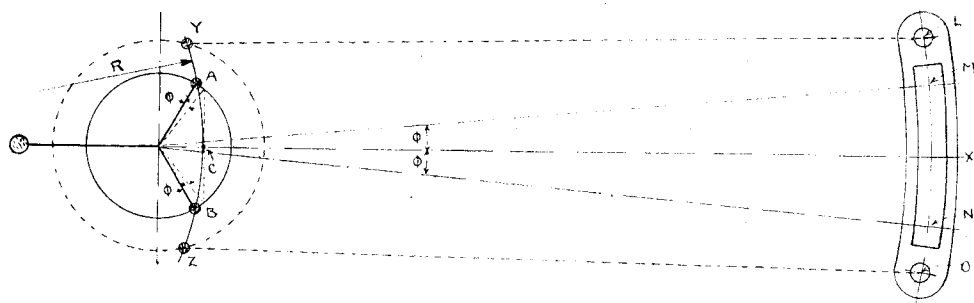

Fig 7.
WE will now again revert to the position of the eccentric when the stroke of same has to be made more than the travel of the valve, as when locomotive-type links are employed, as in Fig. 1 and 3. This increased throw is due, of course, to the eccentric-rod drive being out of line with the centre line of the valve spindle when in full gear. In Fig. 7 this arrangement is shown, and requires to be set out to scale to suit the requirements to a fairly large size. Suppose we have obtained our required valve events, as in the example Zeuner diagram, Fig. 4, and we have designed the links so as to make the angle ϕ , $7\frac{1}{2}^\circ$, which subtends from the axis to the two points M, and N, where the centre of the die-block is located, as in Fig. 7. We then have to fix the minimum distance LM and NO for the centre of the eccentric-rod pins, so as to bring the die-block as near to them as possible. Having done this, we can arrive
- (4) For launch-links, the stroke of the eccentric will be the same as the valve circle and the advance as given by the angle 0° ; but for locomotive-links, the angle 0° must be found, from the inclination of the eccentric-rods, and this angle is then added to the angle of advance on the diagram from which the point C is obtained to enable the valve characteristic to be found, the continuation of which will allow the new eccentric centres to be ascertained by following out the diagram in Fig. 7.
- (5) The mid-gear valve stroke in both cases is given by the point C, so that any cut-off can be predetermined for any required position of notching-up of the gear lever, from the gear characteristic curve, extending from the point C to full gear.